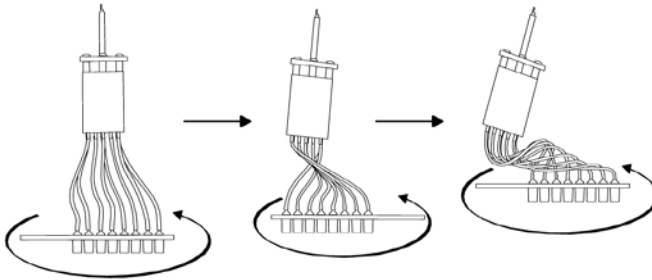

Figure F.2.3f: Rotating Manifold Assembly
4. After installing the piston/cylinder assembly, install the manifold assembly into the main housing. To keep the tubing free from ejector contact, rotate the manifold plate and tubing one complete turn counterclockwise (see *Figure F.2.3f*). Insert the manifold assembly into the main housing support ribs.